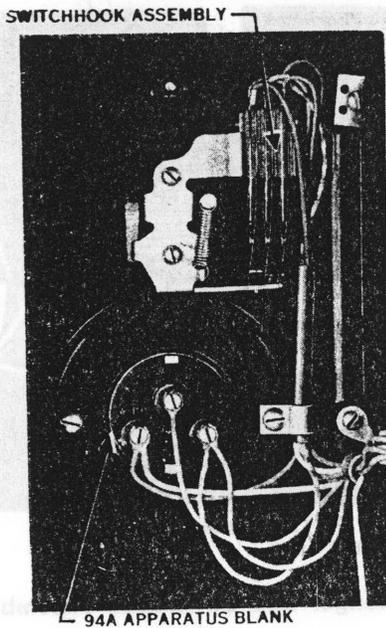
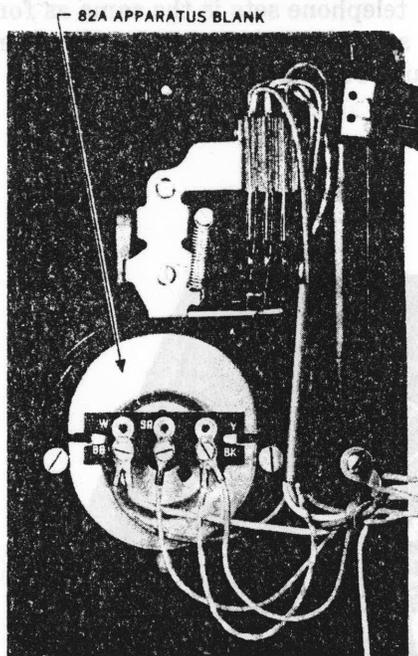

Fig. 10 - Switchhook Assembly and 94A Apparatus Blank
Fig. 15 - 82A Apparatus Blank
3.03 The switchhook assembly for the 354-type telephone is shown in Fig. 10.
3.08 The 94A (Fig. 10) replaces the 82A apparatus blank (Fig. 15) in the 300 series telephone sets.